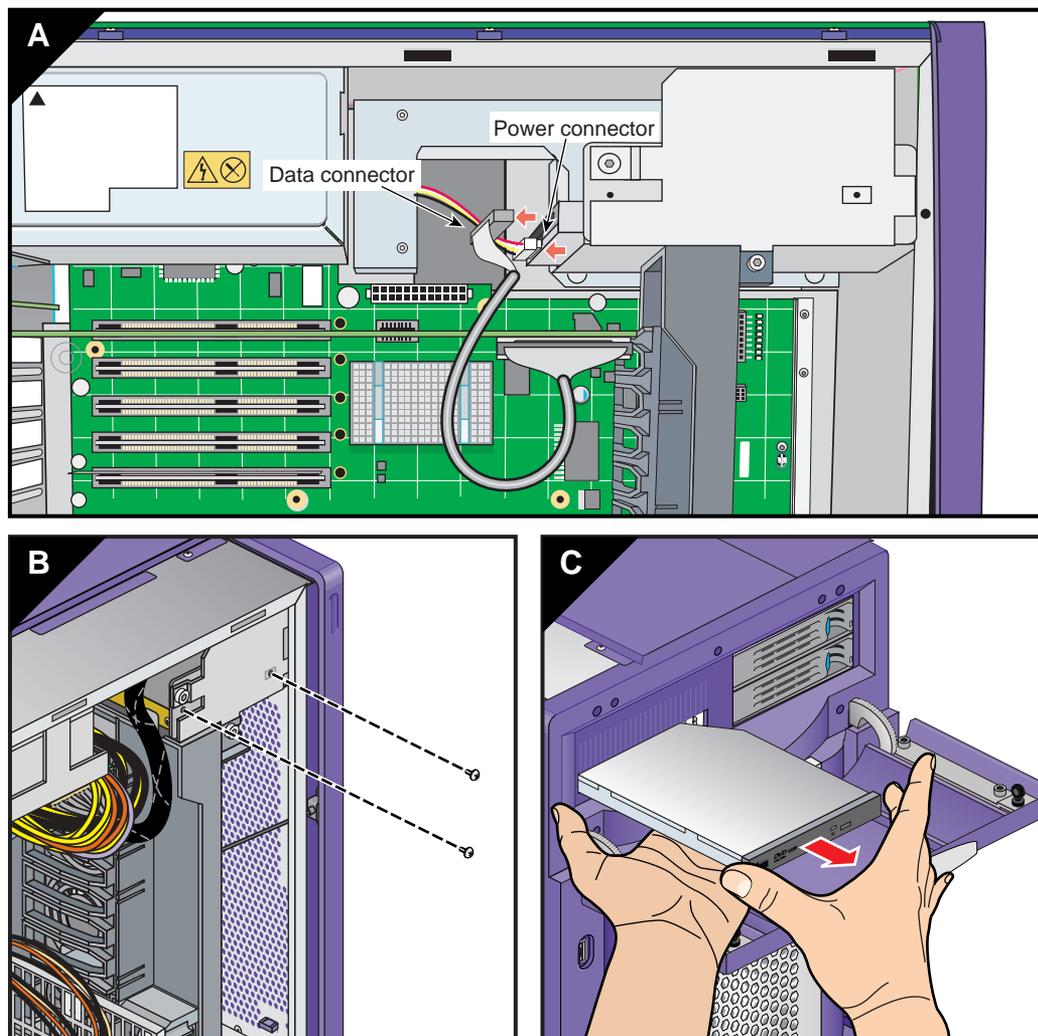

Figure 3-14 Removing the DVD-ROM Drive
2. Undo the side retention screws that hold the drive in place in the slot; then slide the drive out of the drive cage (see Figure 3-14).
Note: You must remove the existing DVD-ROM drive before installing a new one. See the previous steps and Figure 3-14 on page 70 if you have not yet removed the installed drive.